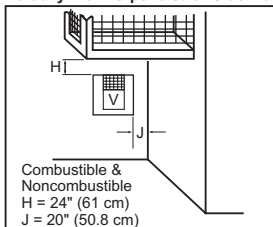

Figure 7 - Minimum Clearances for Termination Cap
- When locating termination cap, it is important to observe the minimum clearances shown in Figure 7, page 7.